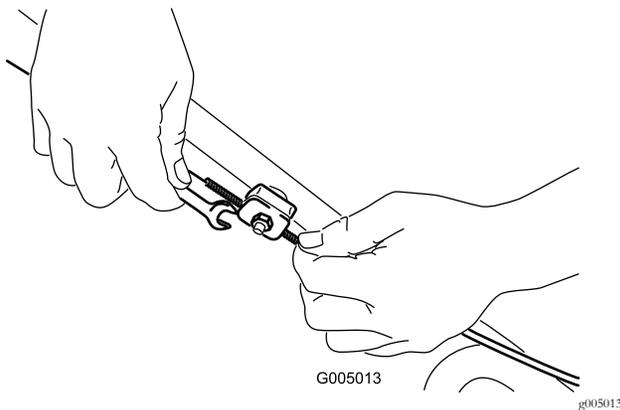

Figure 35
2. Loosen the cable support nut (Figure 35).